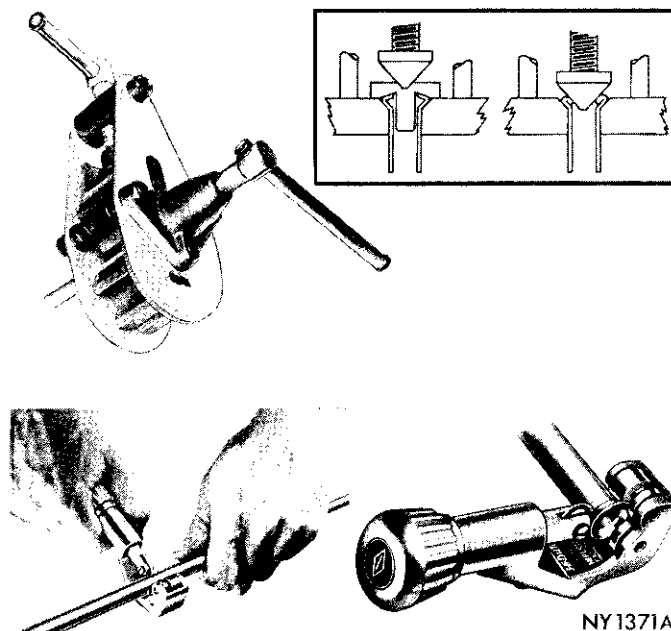

Fig. 3—Cutting and Flaring Steel Tubing
(1) Using Tool C-3478, cut off damaged seat or damaged tubing (Fig. 3).
(2) Ream out any burred or rough edges showing on inside edges of tubing. This will make ends of tubing square and insure better seating of flared end of tubing. **Place compression nut on tubing prior to flaring tubing.**
(3) To flare tubing, open handles of flaring Tool C-3838 and rotate jaws of tool until mating jaws of tubing size are centered in area between vertical posts.
(4) Slowly close handles with tubing inserted in jaws but do not apply heavy pressure to handle as this will lock tubing in place.
(5) Place gauge "Form A" on edge over end of tubing and push tubing through jaws until end of tubing contacts recessed notch of gauge matching size of tubing (Fig. 3).
(6) Squeeze handles of flaring tool and lock tubing in place.
(7) Place proper sized plug of gauge "A" down in end of tubing. Swing compression disc over gauge and center tapered flaring screw in recess of disc.
(8) Lubricate taper of flaring screw and screw in until plug gauge has seated on jaws of flaring tool. This action has started to invert extended end of tubing.
(9) Remove gauge and apply lubricant to tapered end of flaring screw and continue to screw down until